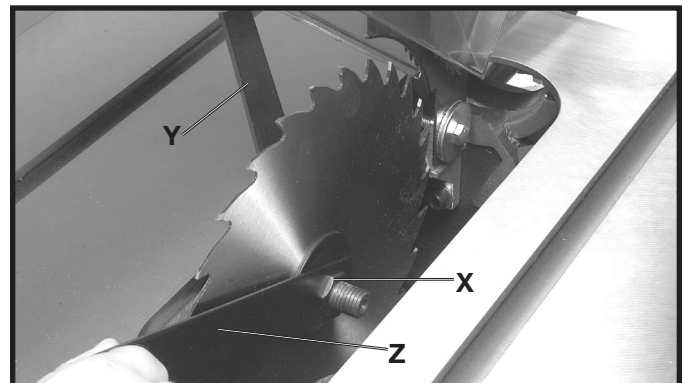

Fig. 26
11. Reassemble the saw blade, making certain the teeth are pointing down at the front of the saw table as shown in Fig. 26, and assemble the outside blade flange and arbor nut (X). With open end wrench (Y) on the flats of the arbor to keep it from turning, tighten arbor nut by turning box end wrench (Z) clockwise.